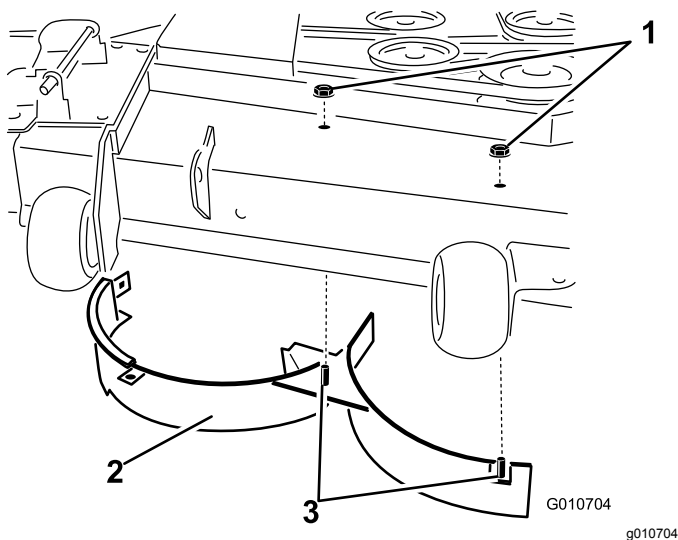

Figure 35
11. Remove the two locknuts (5/16 inch) securing the welded posts of the right baffle to the top of the mower deck at center and right of center positions (Figure 35).
12. Remove the carriage bolt and locknut securing the right baffle to the top of the mower deck. Remove the right baffle from the mower deck (Figure 35).